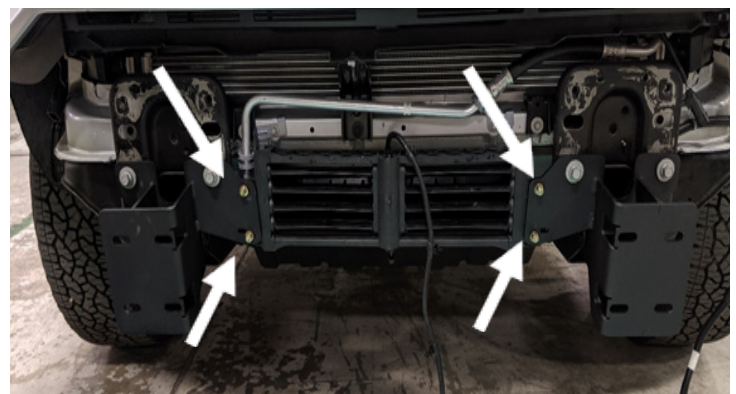

Figure 22
21. Using the provided four (4) bolt stacks of ¼"-20 yellow zinc hex bolt, flat washers, lock washer, and hex nut, loosely install the factory louver system with the bolts pointing forward. (50217-HW). Figure 22